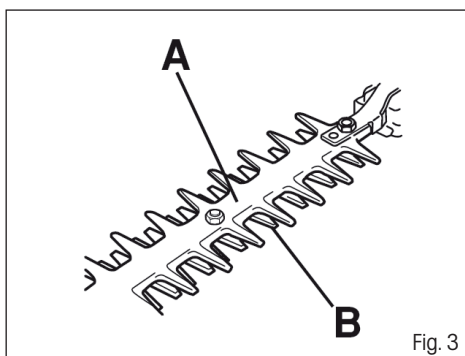

Fig. 3
- ✿ The blade guard (Fig. 3, point A) is intended to protect any part of the body from coming into contact with the trimmer blades (Fig. 3, point B).